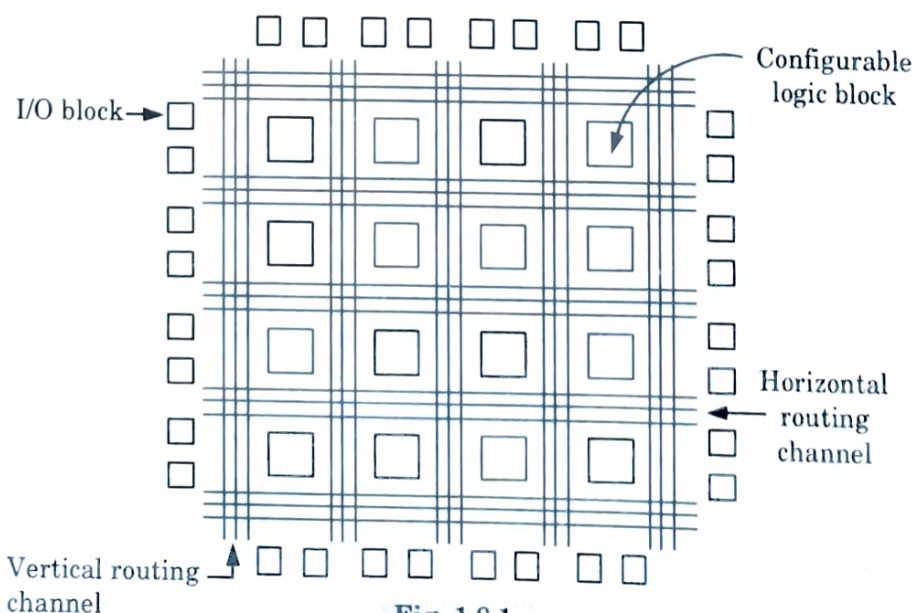

Fig. 1.8.1.
4. The programming of interconnects is implemented by programming of RAM cells whose output terminals are connected to the gates of MOS pass transistors. A general architecture of FPGA from XILINX is shown in Fig. 1.8.1.